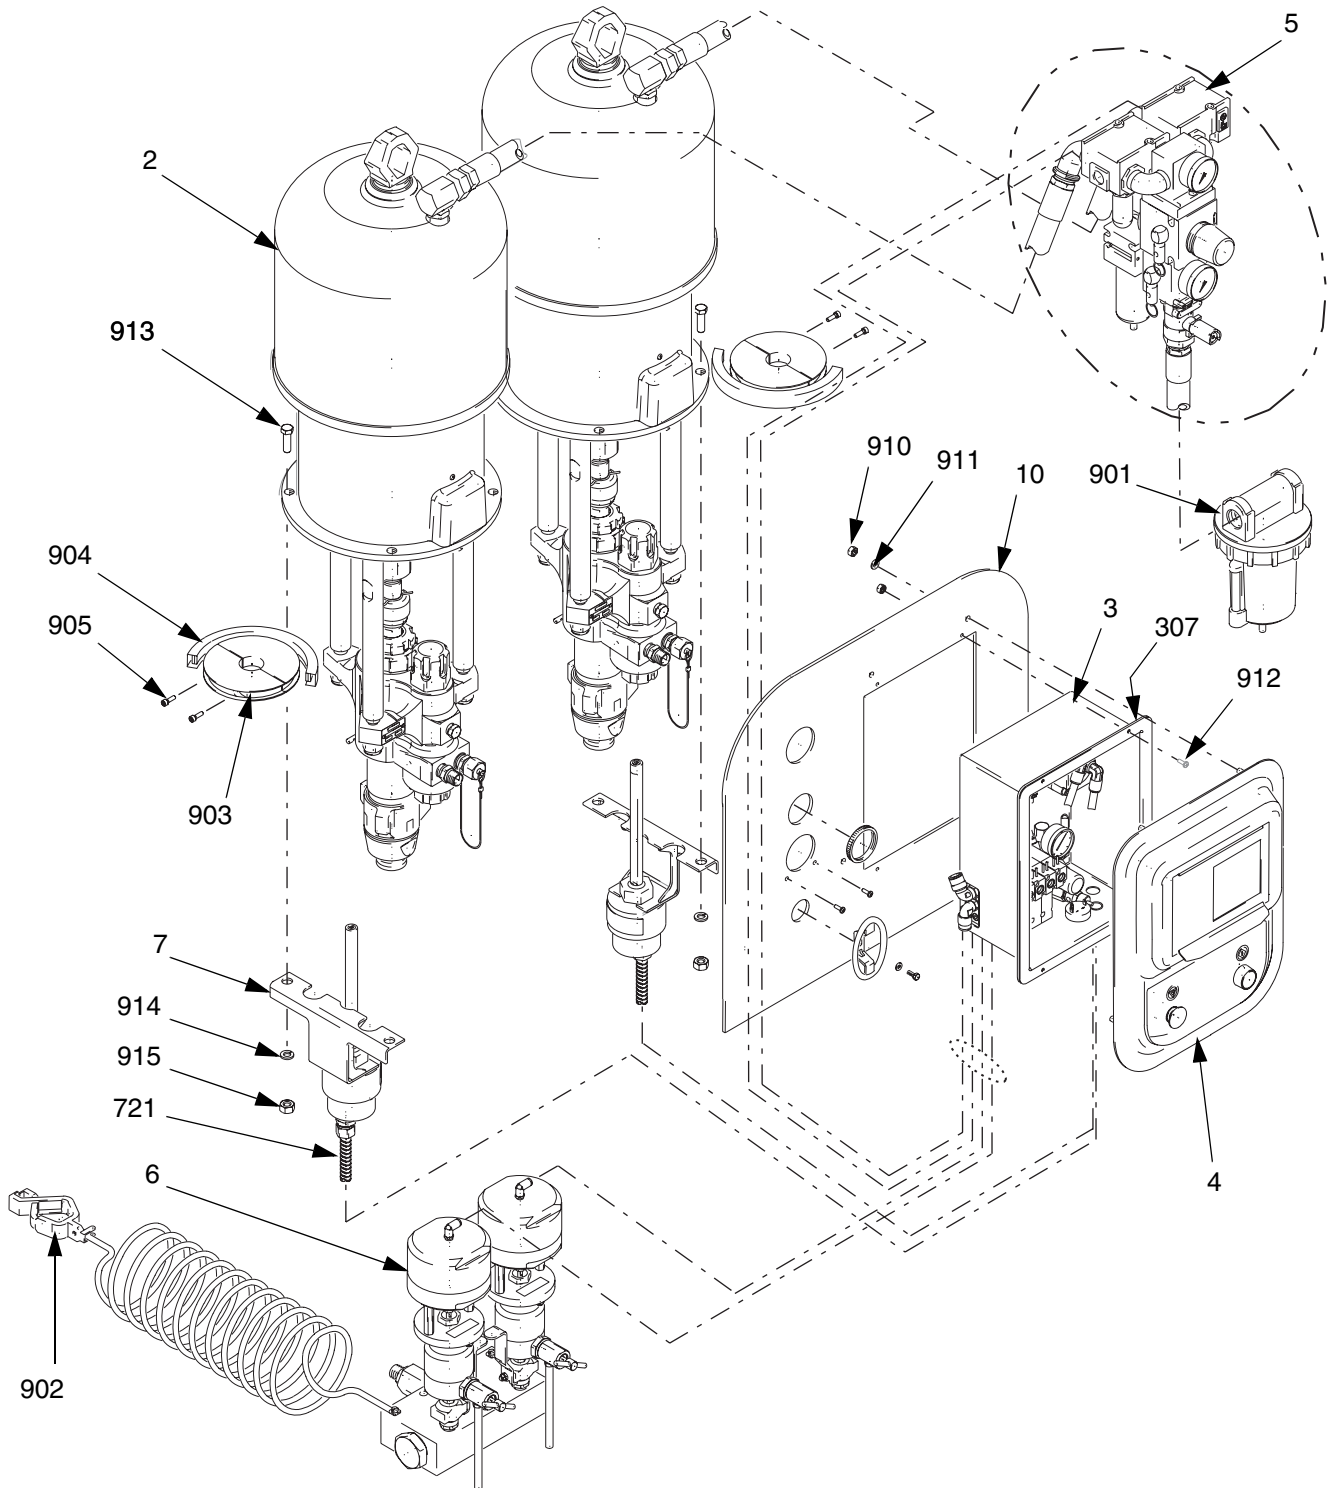

FIG. 1
1. Secure magnet holders (903) to the pump (2) motor displacement rods with screws (905). FIG. 1.
2. Install a short magnet strip then a long one (904) on each magnet holder (903). Secure with tape supplied.
3. Secure pumps (2) on mounting brackets with two 3/8 x 1-1/4" screws (913), lockwashers (914), and nuts (915).
4. Secure sensors (7) on pumps and pump mounting brackets with two screws (913), lockwashers (914), and nuts (915).
1. Mount control box (3) to mounting plate (10). FIG. 1.
- a. Slide gasket (307) over back of pneumatic control box (3), against lip. Insert box through mounting plate (10).
- b. Secure box (3) to plate (10) with 8-32 UNC screws (912).
FIG. 1 and FIG. 3
1. Mount pneumatic control assembly (3) to mounting plate (10). FIG. 1.
3. Connect ground wire (315) to ground stud on back of cover with nut (311).
4. Secure cover (4) to mounting plate (10) with lock-washers (911) and nuts (910). FIG. 1.
1. Secure metering valve assembly (6) to cart/stand with screws (913), washer (914), and nuts (915). FIG. 1, page 8.